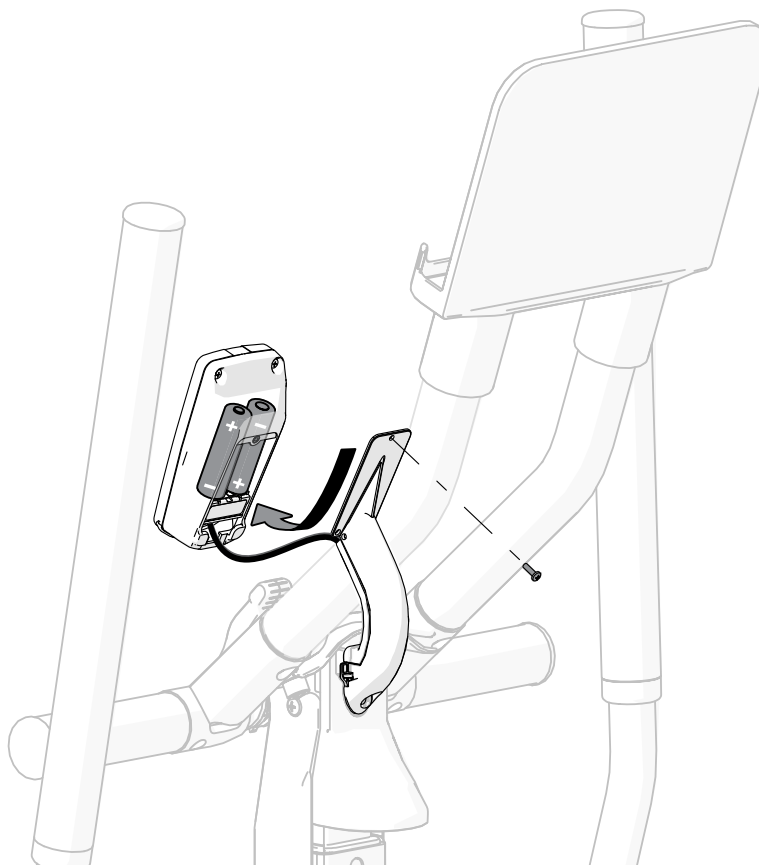

Figure 15. Strider Elliptical Battery Replacement
1. Remove the battery compartment screw using a #1 Phillips screwdriver (refer to Figure 15).